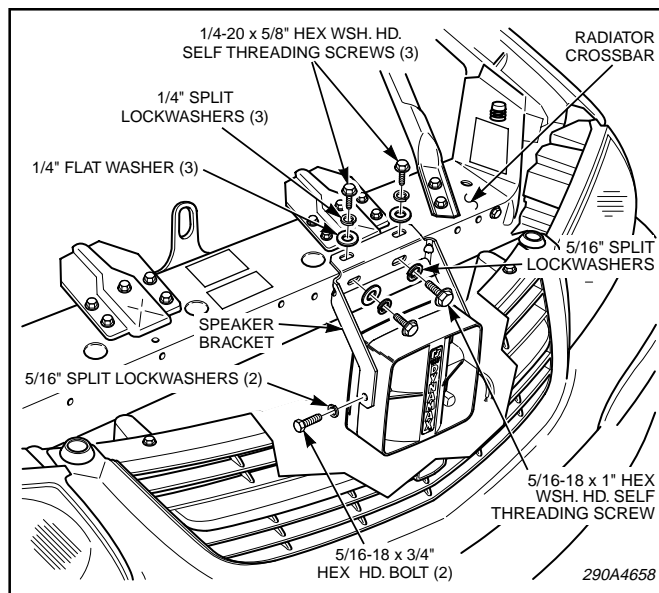

Figure 2.
4. See figure 2. Place the bracket in front of the driver-side motor mount bracket. Align speaker bracket so left side is in line with left side of motor-mount bracket. Hold bracket in place with 5/16 x 1" thread-forming screw and 5/16 lockwasher, using existing hole in crossbar.
5. Using speaker bracket as a template, scribe three (3) drill position marks on the crossbar.